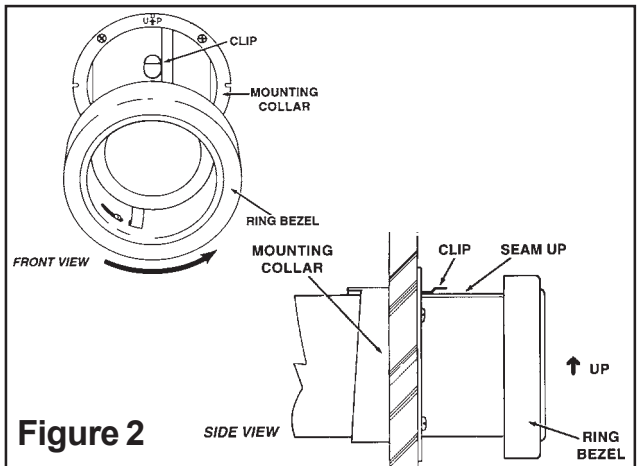

Figure 2
- Remove all cups from the dispenser. Insert the cup dispenser into the mounting collar so that the clip is aligned with the "UP" arrow. (See Figure 2)